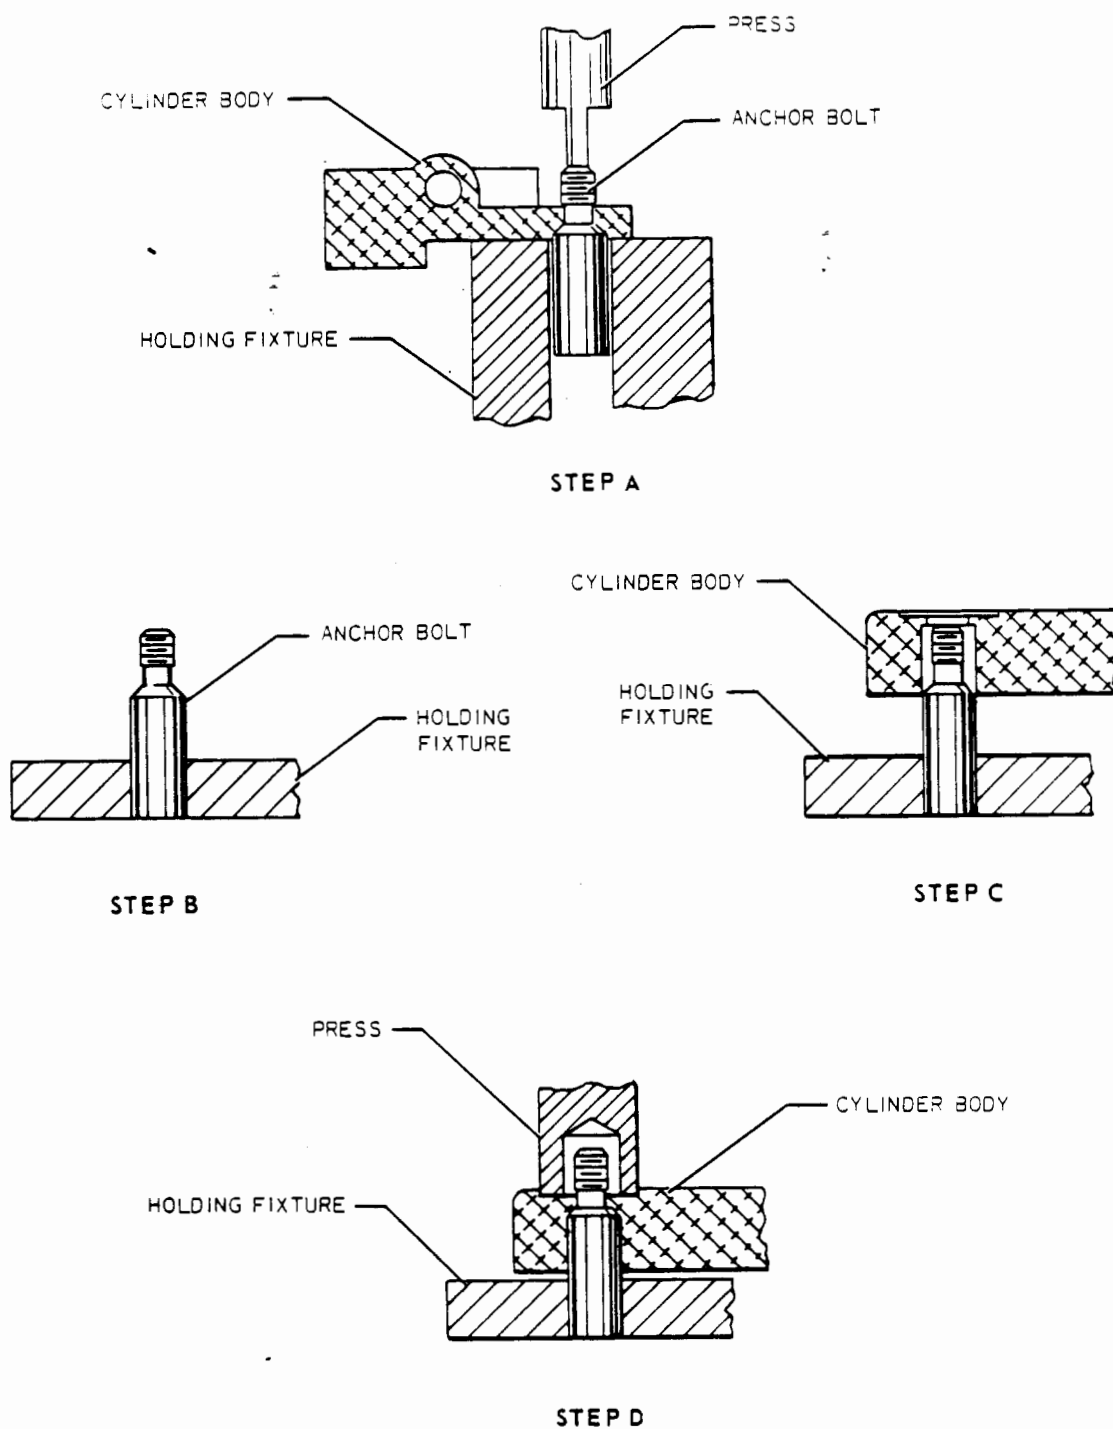

Figure 32-16. Removal and Installation of Anchor Bolts
- A. Position cylinder assembly on a holding fixture. (Refer to Figure 32-16, Step A.)
- A. Support anchor bolt in a holding fixture. (Refer to Figure 32-16, Step B.)
- B. Align cylinder body over anchor bolt. (Refer to Figure 32-16, Step C.)
- C. Use a suitable arbor press and apply pressure on the spot face directly over the anchor bolt hole. (Refer to Figure 32-16, Step D.)